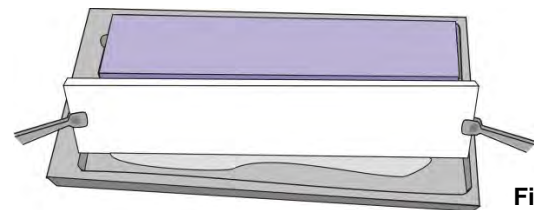

Fig. 5
9. Remove excess electrode buffer from the wicks by tilting the electrode wicks along one long edge and dab it on the PaperPool bottom (fig. 5).